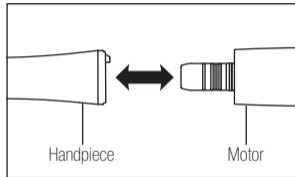

Fig. 2
- 1) Connect the handpiece direct to the motor.(Fig. 2) When connecting an optic handpiece, twist the handpiece until it locks into position with a clicking sound.